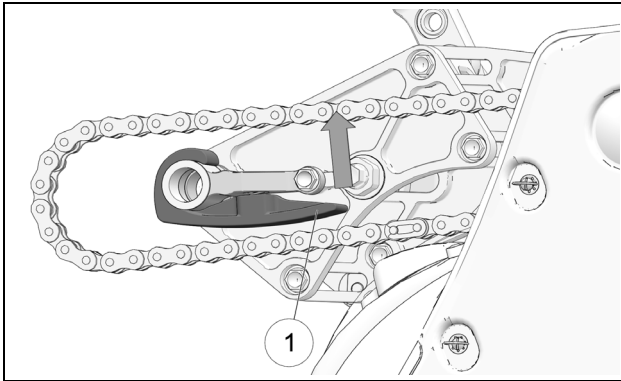

Figure 38
- Lift automatic chain tensioner (1) off the chain and keep it up (e. g. with a zip tie) to avoid adding tension to the chain during adjustment. See Figure 38.